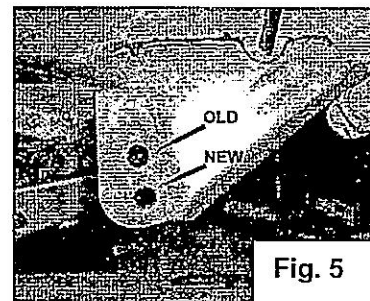
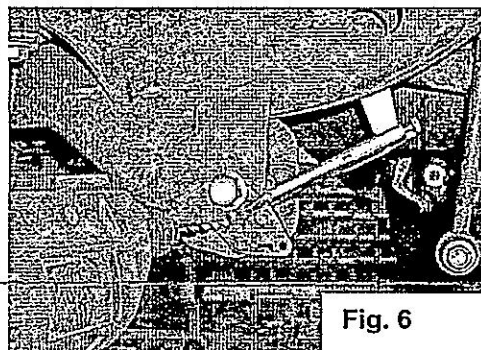

Fig. 5
Fig. 6
Step 5: Redrill Lower Control Arm (LCA) Frame Brackets. For 'Short Arm' Jeps that are using conventional LCAs (such as Nth01300, Nth01400, Nth01420), the frame hole can/should be lowered to further level the LCAs. Use the same basic procedure of step 5, but on the frame brackets the new hole will be *below* the original hole as shown in **figure 5**. If your LCAs are adjustable or fixed at stock length (~15-3/4"), you can use the optional Nth Drill Guide (NthSTGR7900) for these holes as well – simply invert it so the large hole for the original bolt location is at the top, then use the two holes at each end of the arrow with two feathers in the same manner as in step 5 (see **figure 6**).